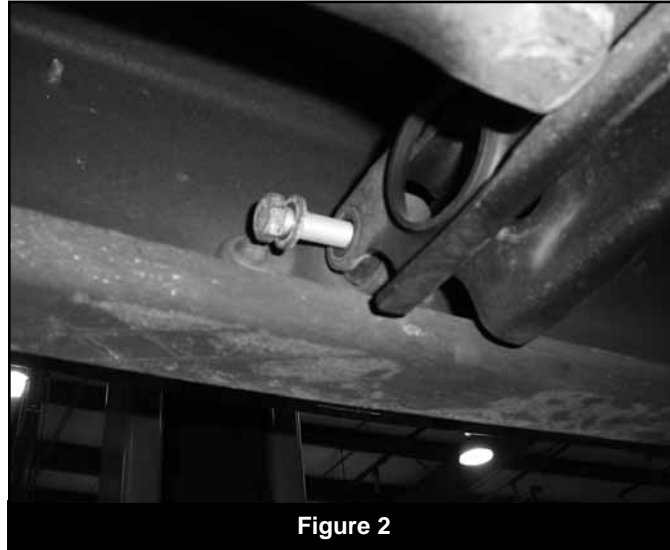

Figure 2
9. Remove the two bolts that attach the torsion bar crossmember to the frame rails (Fig 2). Remove the torsion bar crossmember from the vehicle. Save bolts and crossmember.